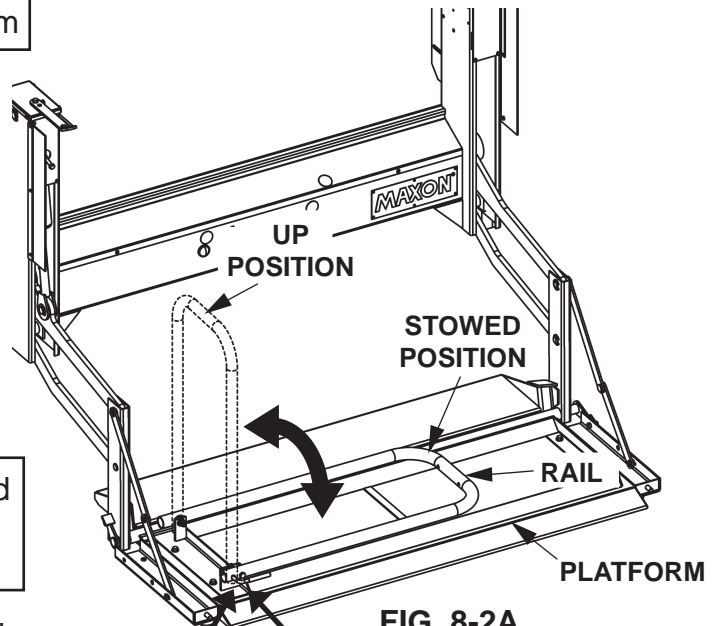
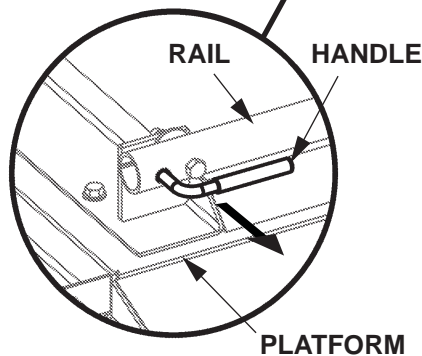
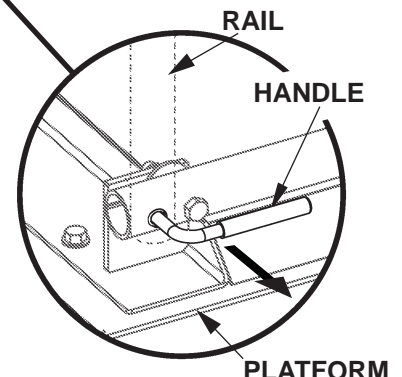

FIG. 8-2A
FIG. 8-2B
FIG. 8-2C
12. Put the Rail in the up position as follows. Pull the Handle to release Rail (**FIG. 8-2B**). Keep pulling the Handle while lifting Rail to up position (**FIG. 8-2A**). When the Rail is all the way up, release Handle to lock the Rail in position (**FIG. 8-2B**). Platform is ready to load.
13. To stow the Rail after use, do the following. Pull the Handle to release the Rail (**FIG. 8-2C**). Keep pulling the Handle while lowering Rail all the way down on the Platform (**FIG. 8-2A**). When the Rail is all the way down, release Handle to lock the Rail in stowed position (**FIG. 8-2A**). Platform is ready to stow.